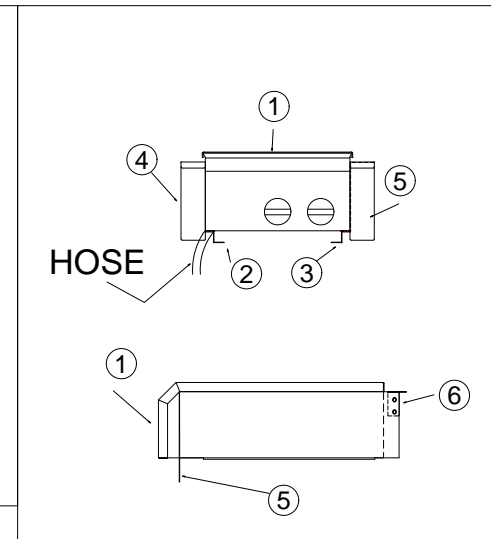

FIGURE 3
**MAKE SURE THE GAS HOSE DOES NOT INTERFERE WITH TRAY OPERATION AND EMERGES FROM THE UNIT AS INDICATED IN FIGURE 3**